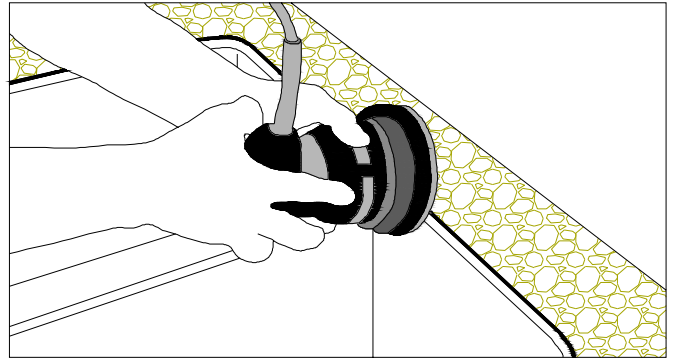

Figure 18A
- Sand the edge of the laminate and sink wall with a random orbital palm sander. Use a 150 to 220 grit sandpaper. (FIG. 18A)